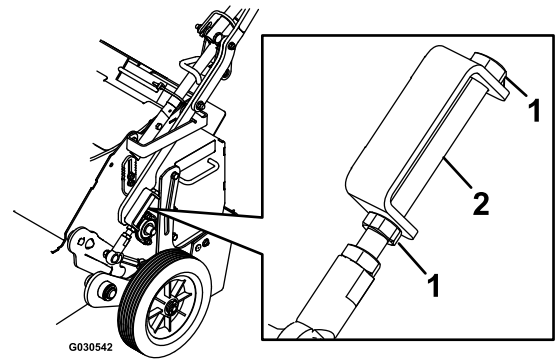

Figure 16
6. Loosen the jam nuts on the adjuster bolt (Figure 16).